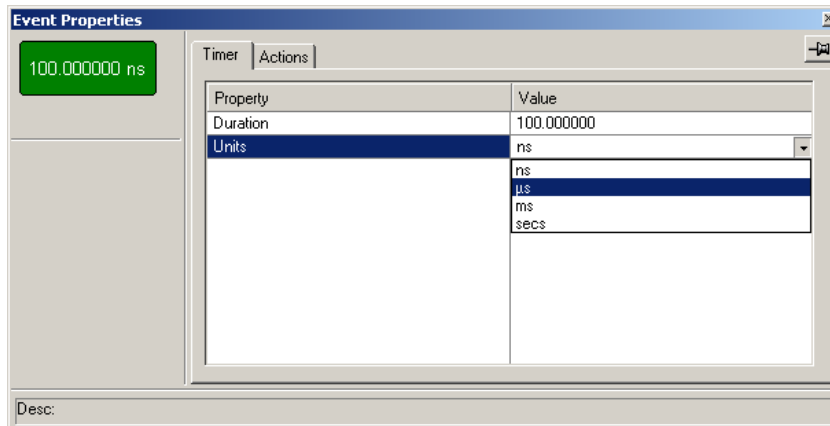

Figure 12.42 Example 5: Setting the Timer
Step 9 In the Properties dialog box for the timer, set the timer to 100 microseconds (Figure 12.42).